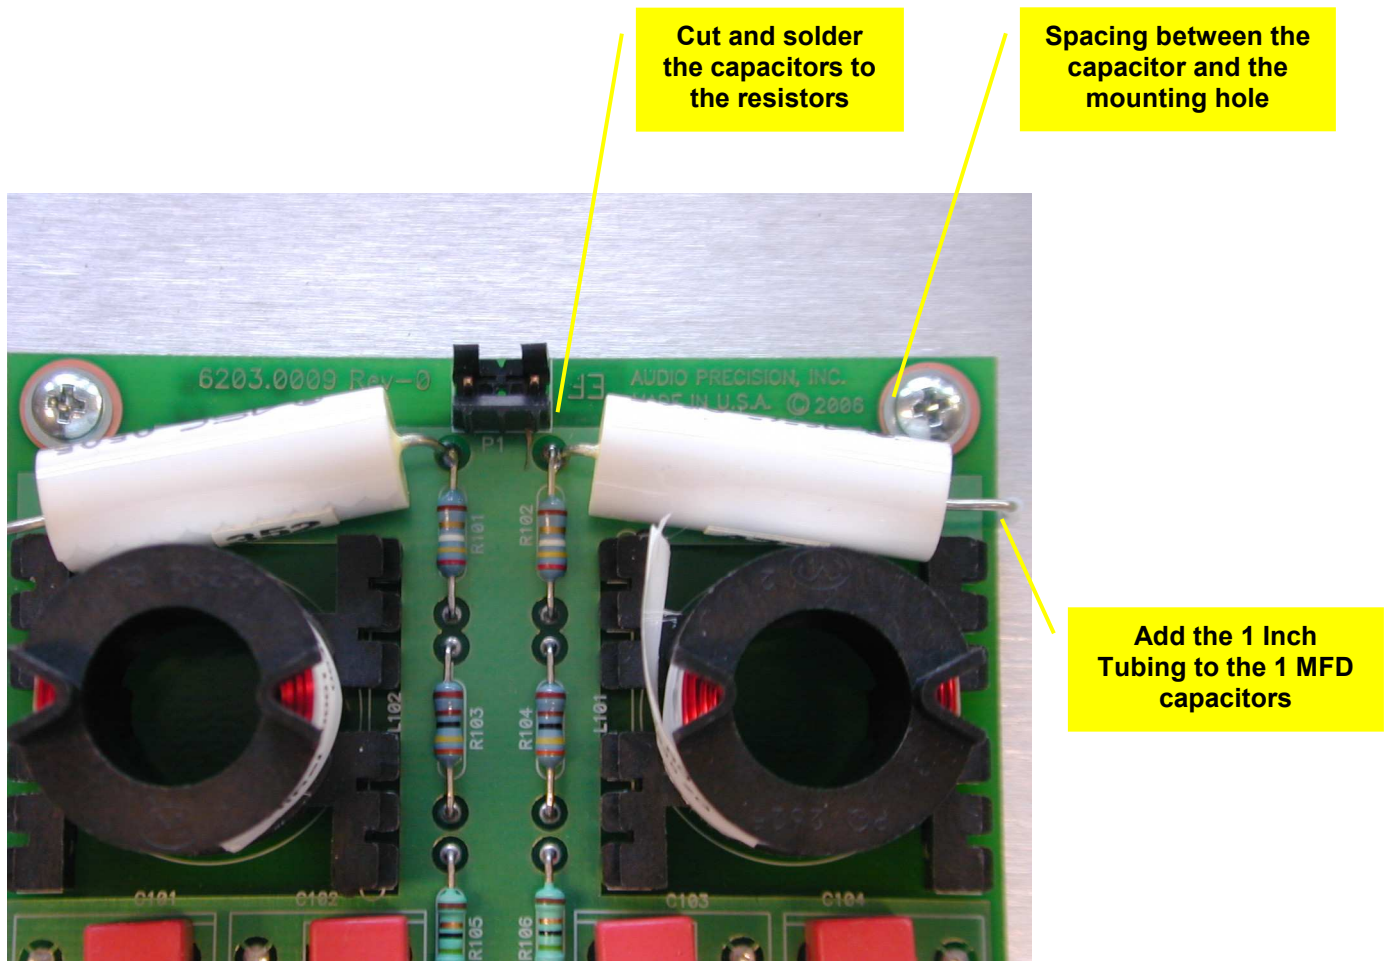

Figure 4
9. Insert one of the 1 inch long tubing on to one end of the 1 MFD capacitor as show in Figure 4.
10. Cut and bend the capacitors leads as show in Figure 4.
11. Solder both capacitor leads to the resistors on the top side of the APX-581 Filter modules as shown in Figure 4.
12. Be sure to mount the 1 MFD capacitors with the spacing between the end of the capacitor and the APX-581 Filter module mounting holes as shown in Figure 4.